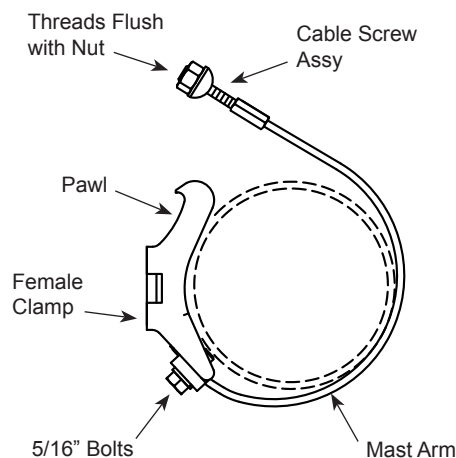

Figure 1
1. Loosen the two (2) 5/16" bolts on the cable plates. Adjust the nuts flush to the top of the cable screw as shown. (Figure 1)